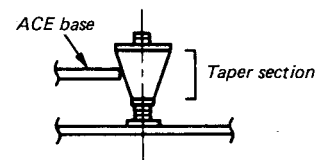

Fig. 1-4-15 Position of taper nut after adjustment
- * After completion of the ACE head position adjustment, the ACE base must be positioned at approximately the center of the taper nut as shown in Fig. 1-4-15.